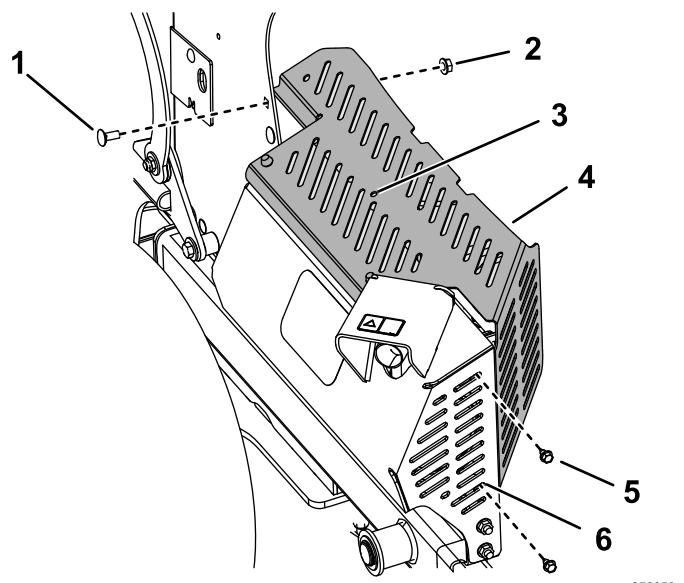

Figure 7
4. **Loosely** install the heat shield over the muffler guard, with the tabs inside the muffler guard and to the inside of the console tower, using the 2 thread-forming bolts (1/4 x 1/2 inch) and the carriage bolt and nut you removed previously (Figure 7).
2. Nut	5. Thread-forming bolt—1/4 x 1/2 inch (2)
- Using the center hole in the heat shield as a template, drill a hole (7/32 inch) into the muffler guard (Figure 7).